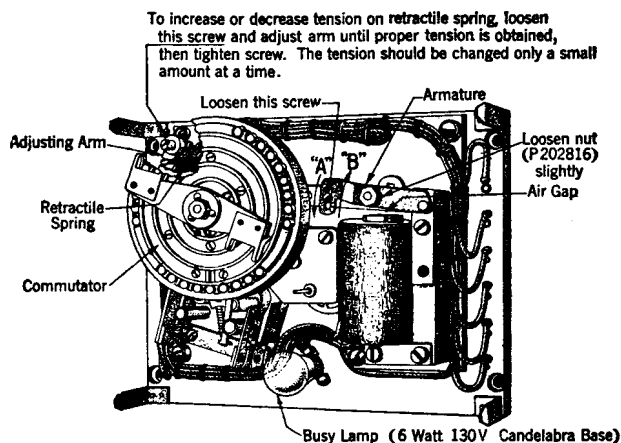

Fig. 2 — Operating Unit of Code Sending Station
2.03 Armature Spring: The retractile spring referred to in Fig. 2 is for the purpose of pulling the armature away from the pole face and ordinarily requires no adjustment in the field.